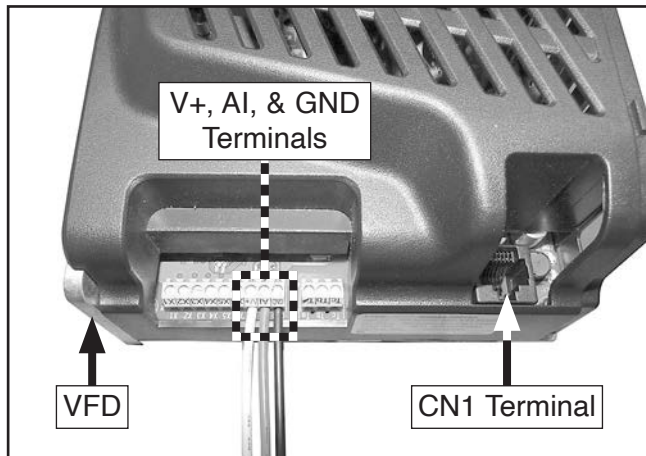

Figure 7. Location of lower VFD terminals.
5. Connect white, red, and black speed dial wires to V+, AI, and GND terminals on VFD (see **Figure 7**).
6. Connect ethernet cable to CN1 terminal on VFD (see **Figure 7**).